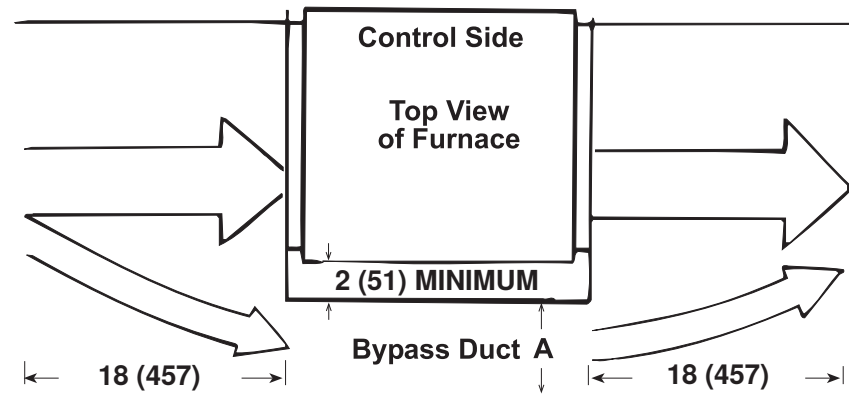

Figure 15. Bypass Duct Dimensions
When the air throughput CFM is greater than desirable or permissible for the unit, a bypass duct (see Figure 15) may be constructed. Locate the bypass duct on the side of the furnace opposite the controls and 2 inches from the heat exchanger side panel. Extend the bypass duct 18 inches (457 mm) beyond the furnace on both the inlet and outlet ends. Determine the correct size of the bypass duct as follows:
*See Figure 15 .